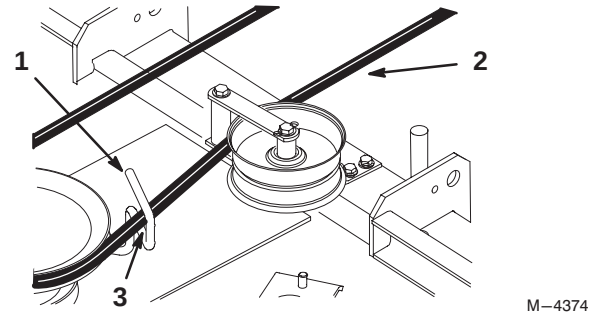

Figure 70
11. Rotate the belt guide, on rear of the mower, so it is 1/8"-1/4" (3-7 mm) away from the vertical side of the PTO belt (Fig. 70).